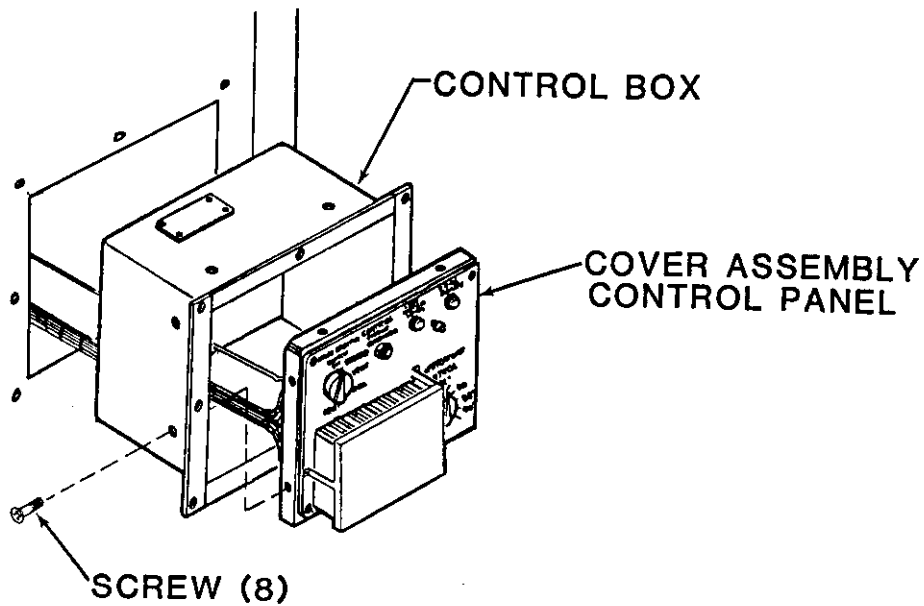

Figure 5-9. Control Panel Removal (Step 2)
- d. Remove eight screws and slip control panel cover assembly out of control box. (See figure 5-9.)